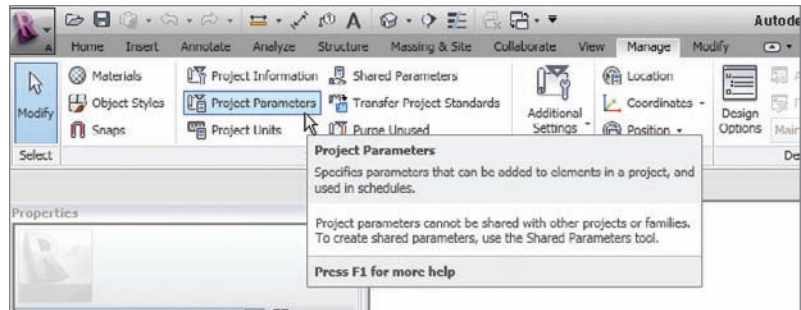

FIGURE 23.20 Clicking the Project Parameters button
1. In the Manage tab, click the Project Parameters button, as shown in Figure 23.20.